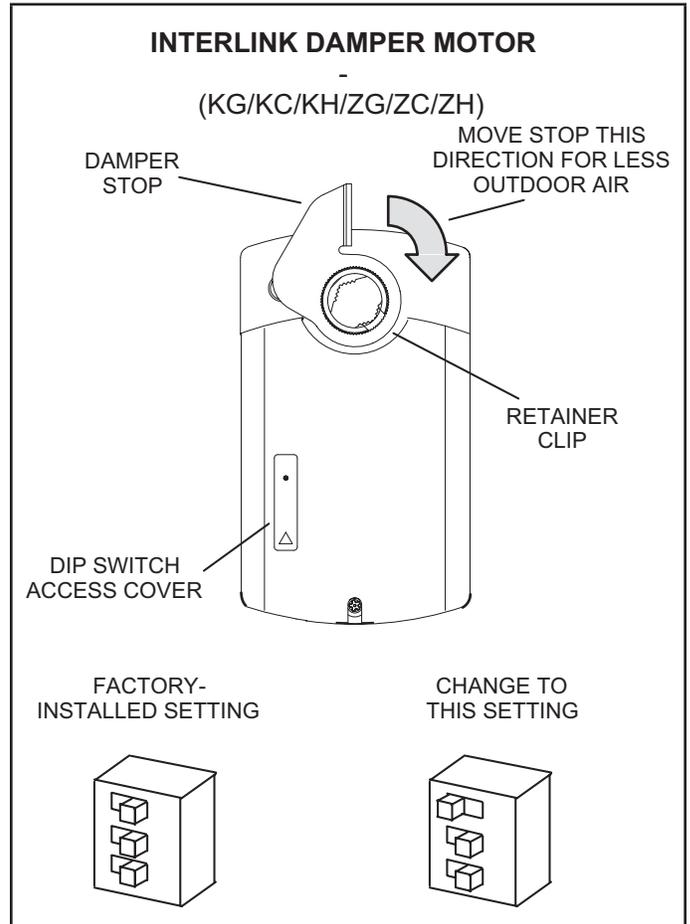

FIGURE 7
- 2 - Open the damper motor DIP switch access cover and adjust the setting. See FIGURE 7.